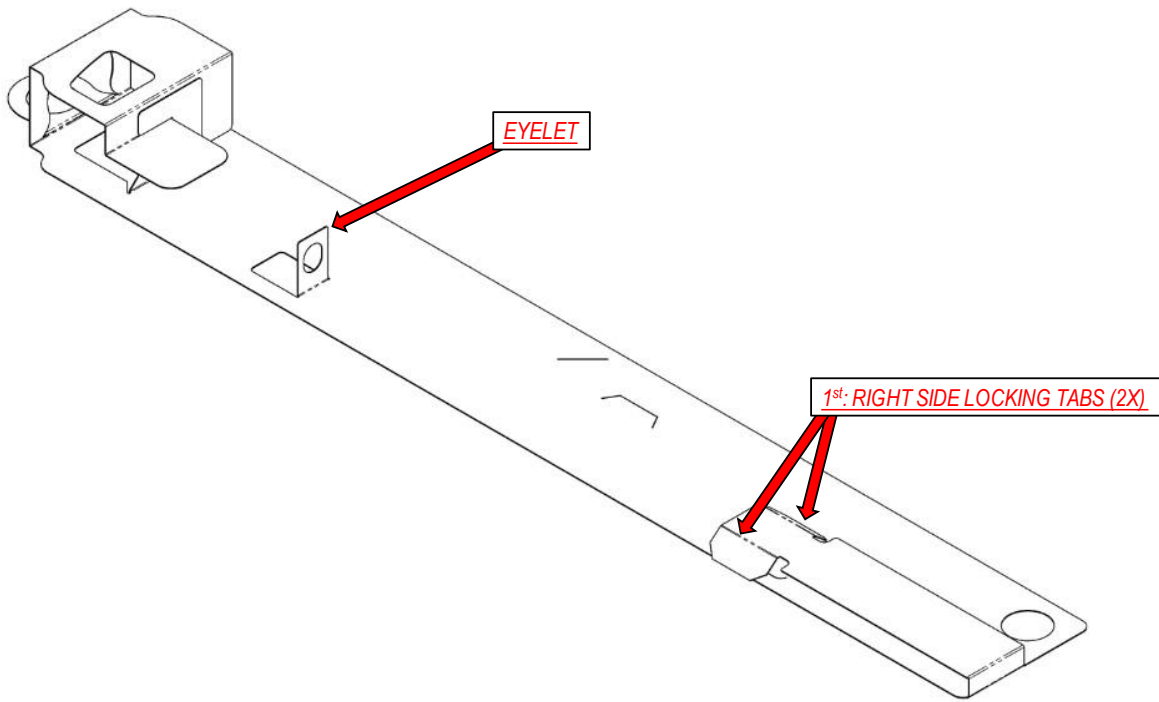

Figure 2: Prepare Folded Backer Card for Robotic Assembly
2. Prepare Folded Backer Card for Robotic Instrument Assembly. Figure 2 identifies the features described below.
- 1st Insert two (2) Right Side Locking Tabs into the two (2) tab receiving slots at the right side the Robotic Instrument Protector Backer Card. This will form a small pocket.